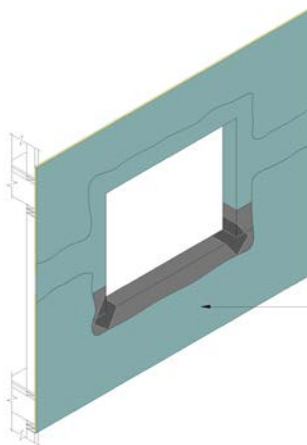

Figure 12
- 4) Install the specified component (i.e. window, etc.) and associated flashings per manufacturer’s directions and contract documents. Then apply Backstop NT – Texture, Smooth or Spray to the remainder of the wall surface as described in Section VI and lap over the previously installed material (do not lap over Flashing Tape if specified) around openings – Figure 12.